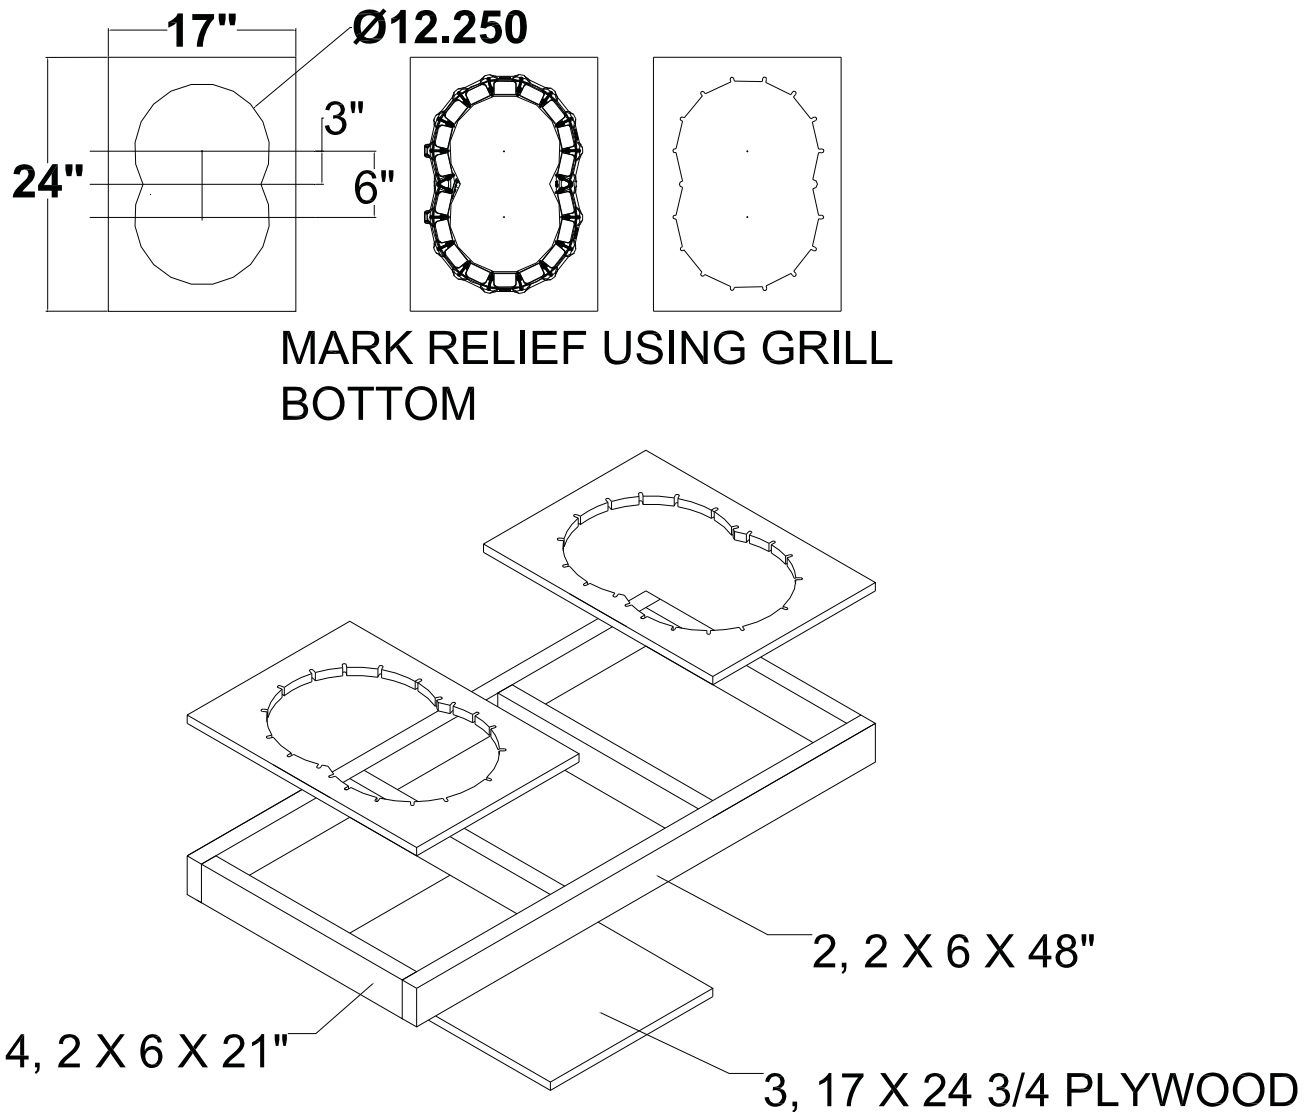

Figure 32. Feed Pan Assembly Box Construction
2. Center the grill on the 17" [432 mm] x 24" [609 mm] piece of plywood. Use a pencil and draw around the inside edge of the grill as shown in **Figure 32**. Mark a "V" at each strut location.
4. Use a spade bit to drill a hole at each strut location as shown in **Figure 32**.
6. Use FOUR (4) 21" [534 mm] and two (2) 48" [1219 mm] 2" [51 mm] x 6" [236 mm] to construct the box sides. Nail the 3/4" [19 mm] plywood fixture to the box.